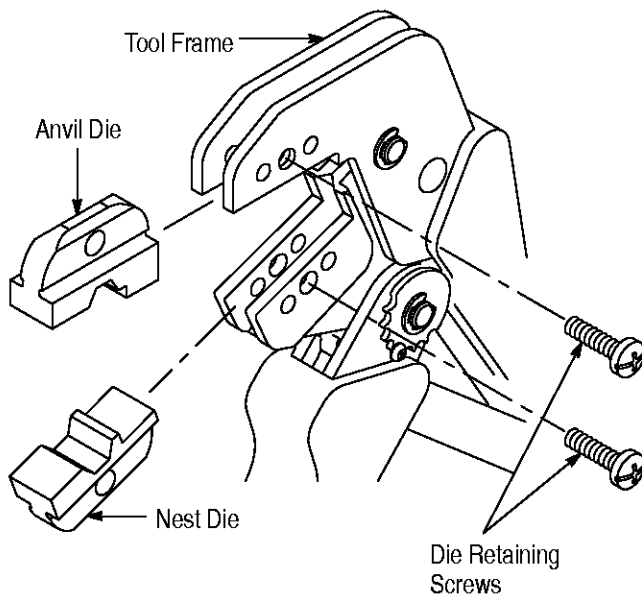

Figure 2
3. INSTALLATION AND REMOVAL OF THE DIE ASSEMBLY (Figure 2)